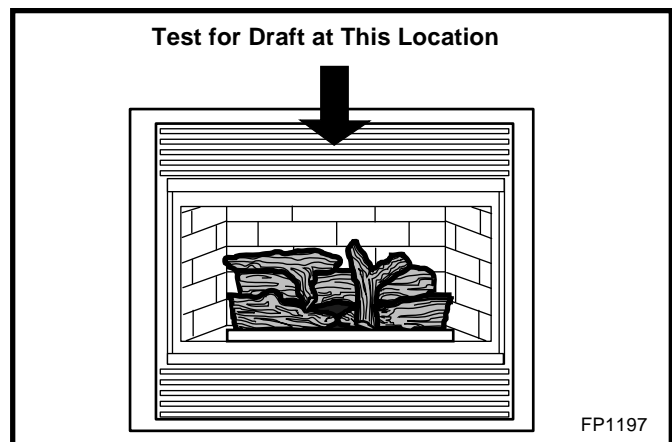

Fig. 17 Draft test location.
3. Hold an ignited match, cigarette, or smoke match in front of the unit. Refer to Figure 17 for location of the draft hood opening.